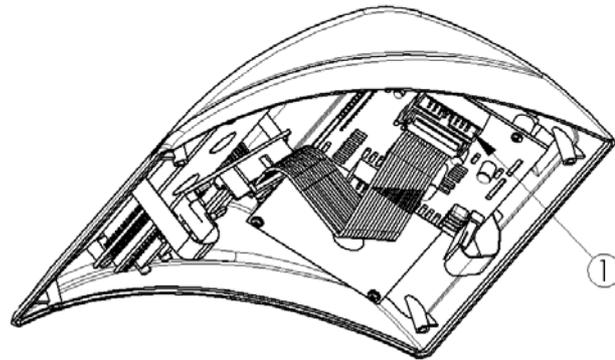

Fig. 4: Controller top P-type
5. Mount the connector of the flatcable to the connector of the P-board of the ergometer controller top P-type. (Fig. 4: Controller top P-type, item 1)